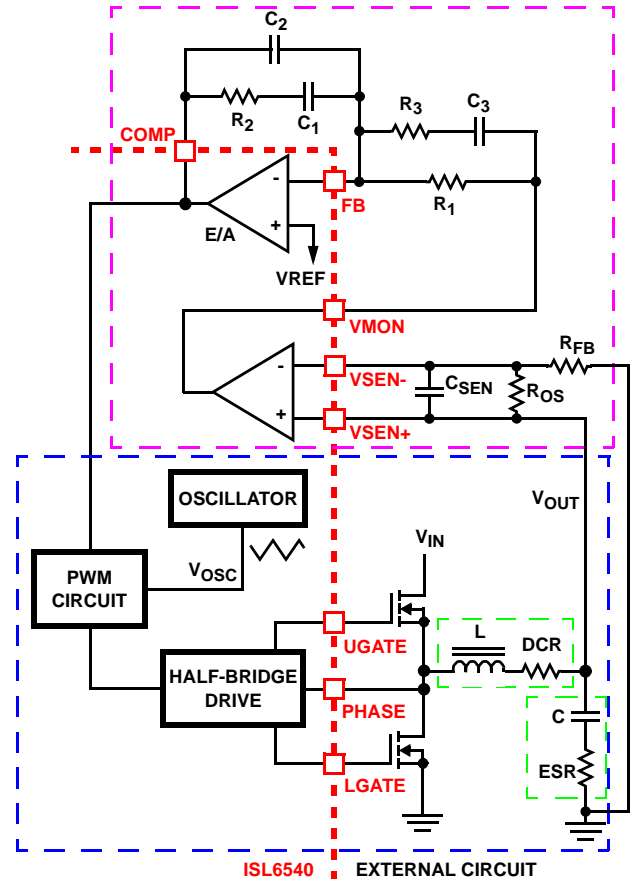

FIGURE 10. VOLTAGE-MODE BUCK CONVERTER COMPENSATION DESIGN
Figure 10 highlights the voltage-mode control loop for a synchronous-rectified buck converter, when using an internal differential remote sense amplifier. The output voltage (V_{OUT}) is regulated to the reference voltage, V_{REF} , level. The error amplifier output (COMP pin voltage) is compared with the oscillator (OSC) triangle wave to provide a pulse-width modulated wave with an amplitude of V_{IN} at the PHASE node. The PWM wave is smoothed by the output filter (L and C). The output filter capacitor bank's equivalent series resistance is represented by the series resistor ESR.
1. Select a value for R_1 (1k Ω to 10k Ω , typically). Calculate value for R_2 for desired converter bandwidth (F_0). If setting the output voltage to be equal to the reference set voltage as shown in Figure 22, the design procedure can be followed as presented. However, when setting the output voltage via a resistor divider placed at the input of the differential amplifier (as shown in Figure 10), in order to compensate for the attenuation introduced by the resistor divider, the below obtained R_2 value needs be multiplied by a factor of $(R_{OS}+R_{FB})/R_{OS}$. The remainder of the calculations remain unchanged, as long as the compensated R_2 value is used.
A small capacitor, C_{SEN} in Figure 10, can be added to filter out noise, typically C_{SEN} is chosen so the corresponding time constant does not reduce the overall phase margin of the design, typically this is 2x to 10x switching frequency of the regulator. As the ISL6540 supports 100% duty cycle, d_{MAX} equals 1. The ISL6540 also uses feedforward compensation, as such V_{OSC} is equal to 0.16 multiplied by the voltage at the VFF pin. When tying VFF to V_{IN} the above equation simplifies to: